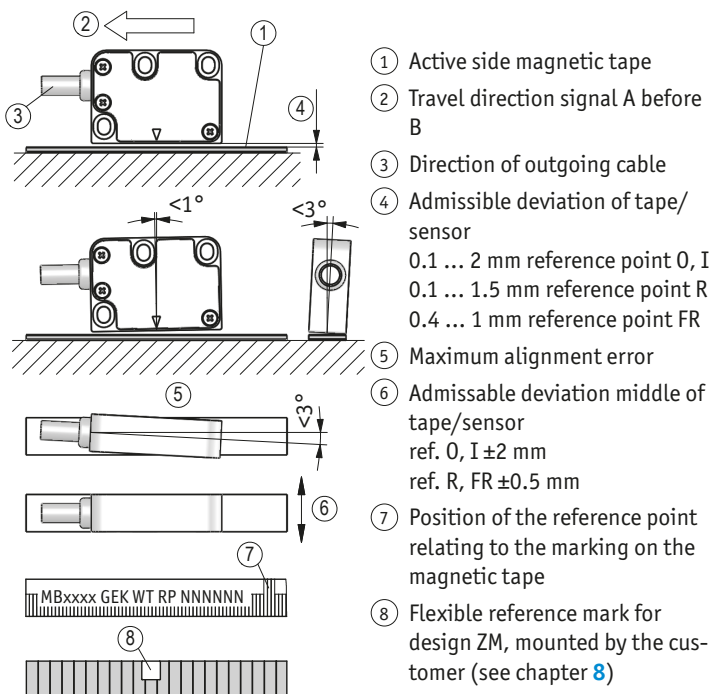

Fig. 6: Definition of the counting direction with magnetic tape and assemblage sensor / magnetic tape, gap measure, tolerances
- Take care that the magnetic sensor is aligned correctly in order to ensure optimum sensing (see Fig. 6).